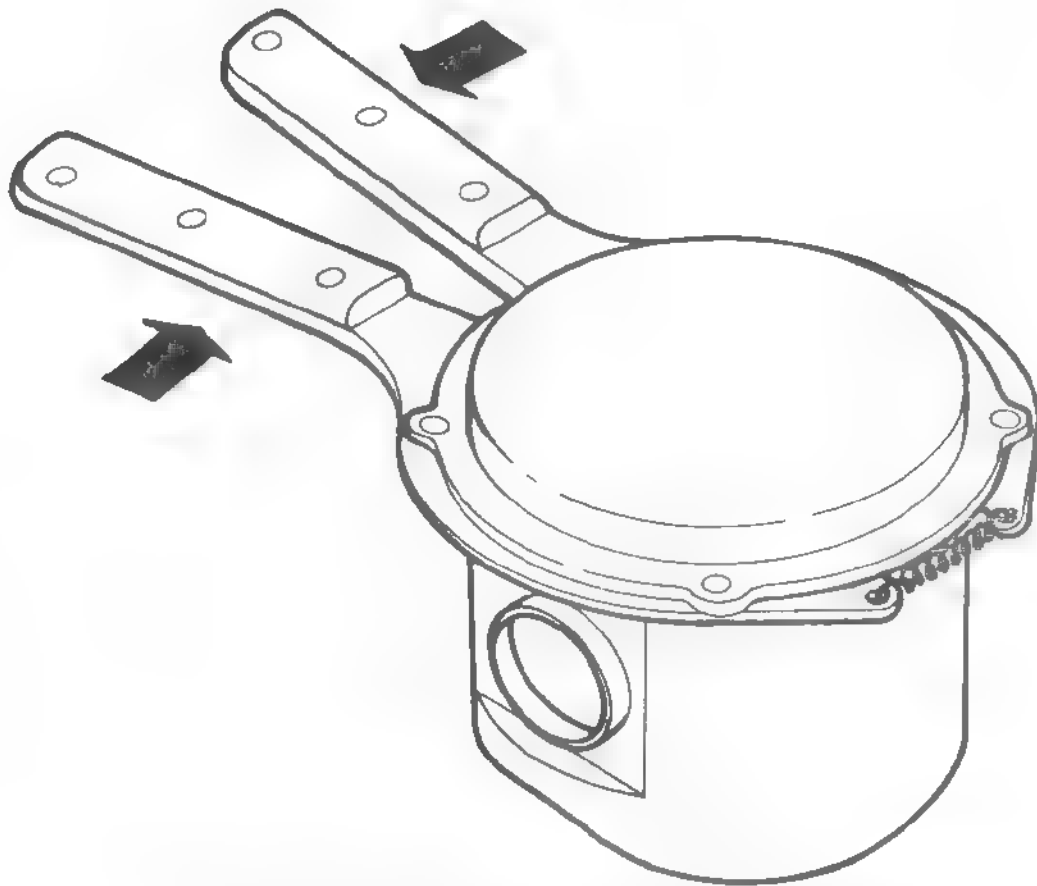

Fig. 4.62. FITTING PISTON RINGS BY MEANS OF S-11 PLIERS
- Fit the compression rings by means of S 11 pliers (see Fig.4.62).